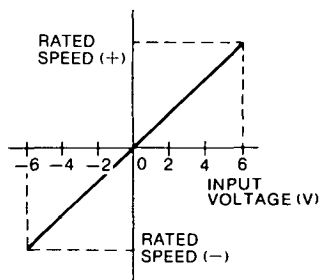
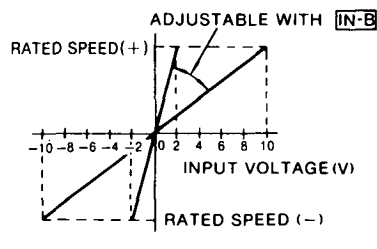

Fig. 4.7 Speed-Input Voltage Characteristics
Fig. 4.8 Speed-Input Voltage Characteristics when Auxiliary Input Terminals 1CN-⑭ and ⑮ are used.
Fig. 4.7 shows motor speed and input voltage curve when speed reference input terminals 1CN-⑫ and ⑬ are used. With auxiliary input terminals, 1CN-⑭ and ⑮, motor speed can be set to the rating by adjusting user constant Cn-03  $\boxed{\text{INBGN}}$  as long as input voltage is within  $\pm 2\text{V}$  to  $\pm 10\text{V}$ . See Fig. 4.8.